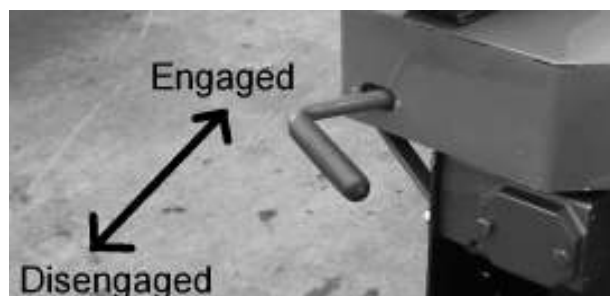

Figure 3 Hopper Rotation Clutch
7. Engage the clutch to start the hopper rotating (Figure 3)